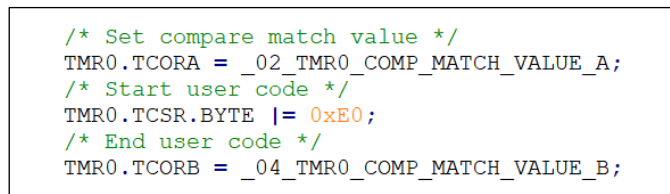

Figure 10-6 The codes after resolving the merge conflict
- 2) Remove last time generated code and the conflicts comment (<<<<<<<Last Time Generated Code, ===== and >>>>>>)This Time Generated Code) as shown in Figure 10-6.